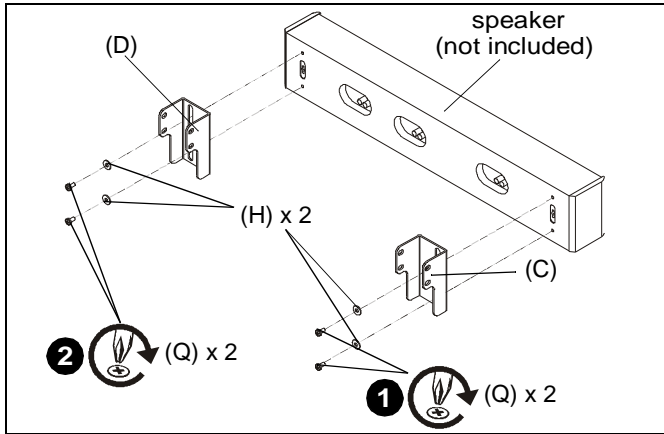

Figure 15
1. Attach left wall speaker interface (C) to back of speaker (left side) using two 1/4-20 x 1/2" Phillips pan head screws (Q) with two large washers (H). (See Figure 15)
2. Repeat Steps 1 with right wall speaker interface (D). (See Figure 15)